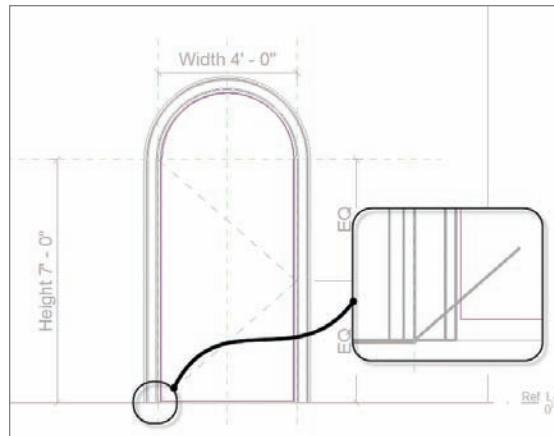

FIGURE 17.24 Adding the door
8. Offset the bottom up (see Figure 17.24).